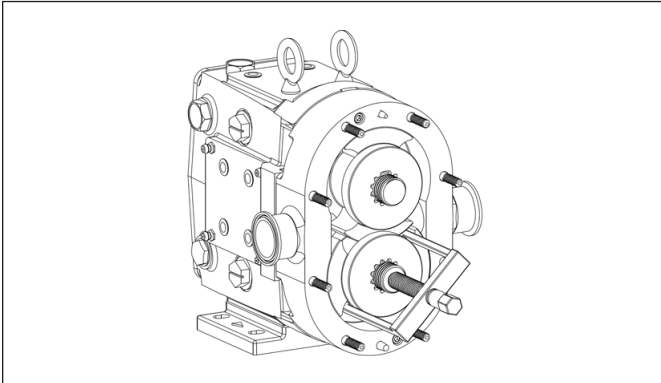

Figure 26. Removing Rotors (Gear Puller)
- Remove the rotors by orientating them perpendicular to each other and then pulling them out. It is important to be cautious with the rotors so that they are not damaged. If rotors are difficult to remove, use a nylon or wood lever to pry them out without damaging the body or the rotors. If needed, use a gear puller in orientation shown in *Figure 26* and handle with caution.